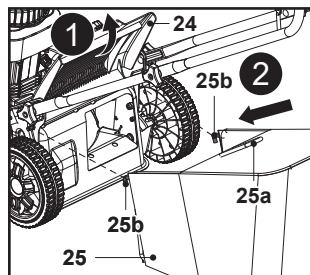

Fig. 5
3. Open the rear deflector guard (24) and hold it in position (Fig. 5, step 1).
4. Carry the grass catcher (25) by its carry handle (25a).
5. Align the two grass catcher hooks (25b) with the rods and hang the grass catcher (25) onto it (Fig. 5, step 2).
6. Carefully release the rear deflector guard (24) afterward.